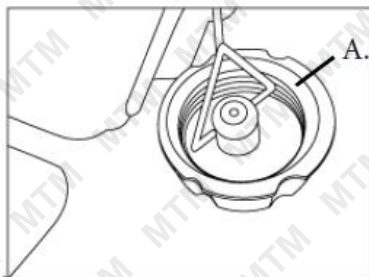
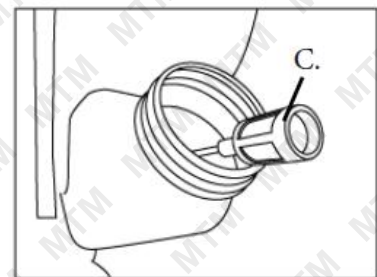

Fig.22
Fig.24
Keep the vent (A) on the fuel cap clean of debris (Fig. 22).
1. Remove the fuel cap from the fuel tank (B) to be able to remove the fuel filter (C) from the tank. Use a piece of wire with a hook (C) to pull the filter out of the tank.
2. Pull off the fuel filter (C) with a twisting motion.
3. Replace the fuel filter (Fig. 24).
3. Clean and gap the spark plug or install a new spark plug with a proper gap (Fig. 24).